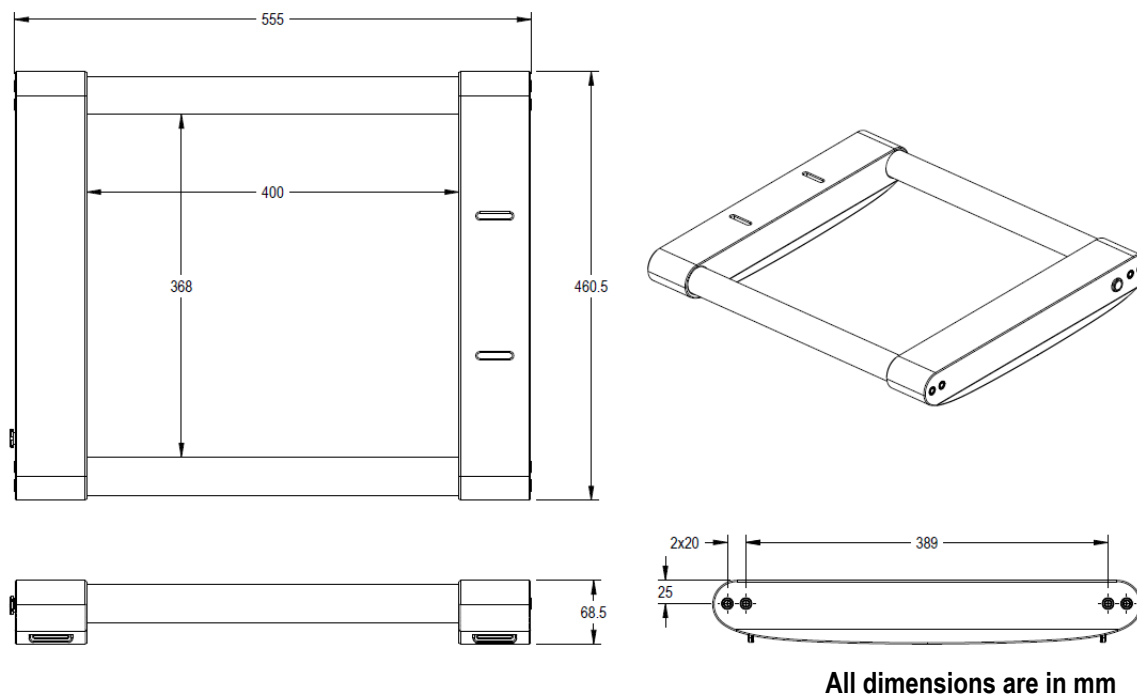

Figure 5-6 Window Field Generator - Mounting Details
- b) By means of 8 mounting holes, four on either side of the Field Generator. The holes are M8 tapped, thread pitch 1.25 mm, depth 12 mm. The location of the mounting holes are show in Figure 5-6.
Note The drawing shown in Figure 5-6 is available for download from the NDI Support Site.